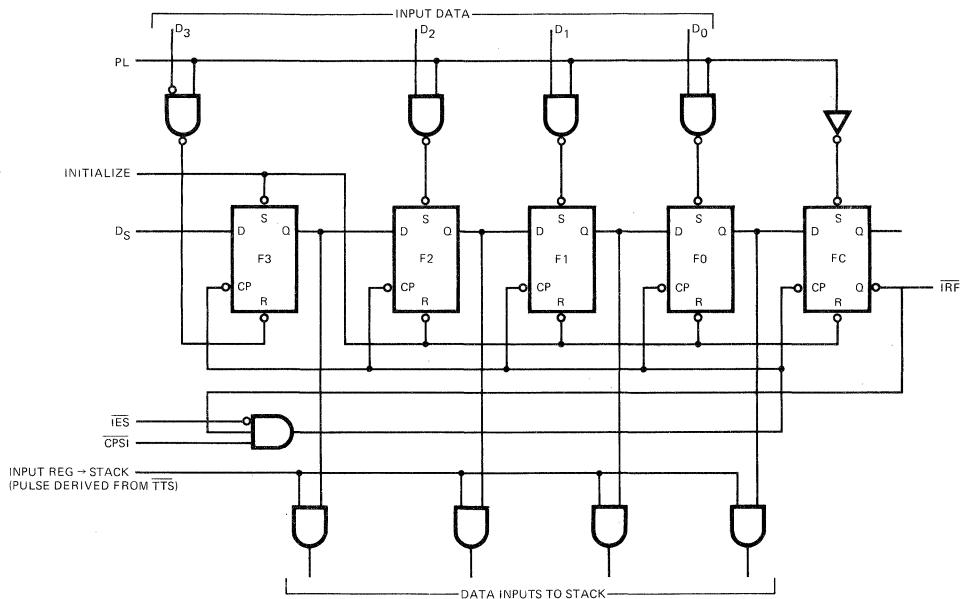

Fig. 1
Figure 1 is a conceptual logic diagram of the input section. As described later, this 5-bit register is initialized by setting the F3 Flip-Flop and resetting the other flip-flops. The \bar{Q} Output of the last Flip-Flop (FC) is brought out as the "Input Register Full" output (IRF). After initialization this output is HIGH.